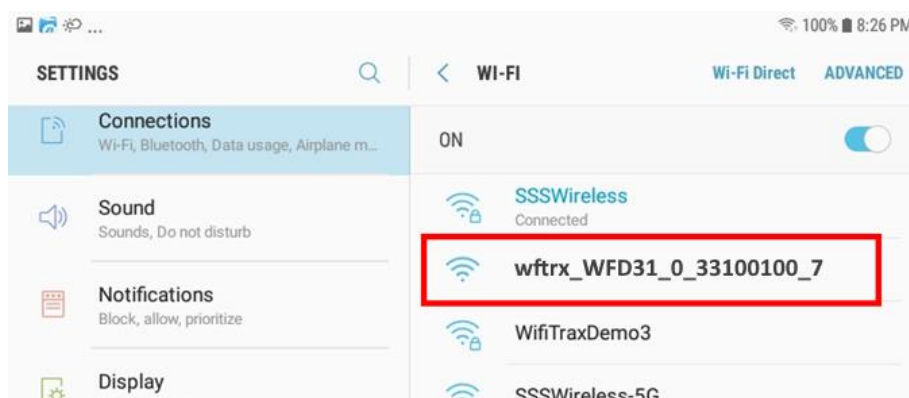
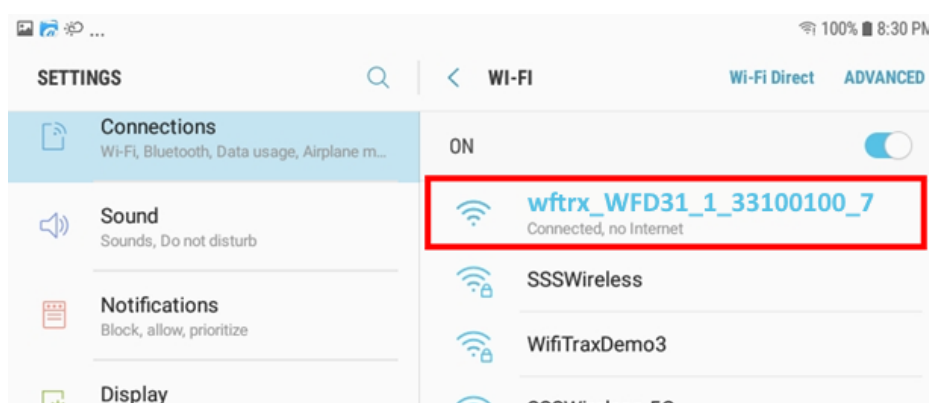

Figure 15 WFD-31 Wi-Fi Access Point is visible
Figure 16 Connected to the WFD-31 Wi-Fi Access Point
- (6) You now see a collection of available Wi-Fi Access Points. Look for one that is of the form wfrtx_WFD31_1_XXXXXXX_7, where XXXXXXXX is the serial number of your unit that appears on its bag and the unit itself, like Figure 15. Tap that Wi-Fi Access Point – no password is required – and wait for it to connect. You will not be able to access the internet while you are connected to the Wi-Fi access point of the WFD-31 but consult the manual later to see how you can put everything on your home network. After a few moments the Access point should show “Connected, no internet” as Figure 16